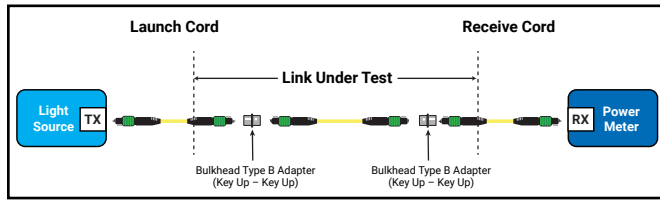

Figure 11b: Unpinned-unpinned link testing configuration
7. Connect the receive cord to the power meter, and connect the Link Under Test between the launch cord and receive cord as shown in Figure 11b